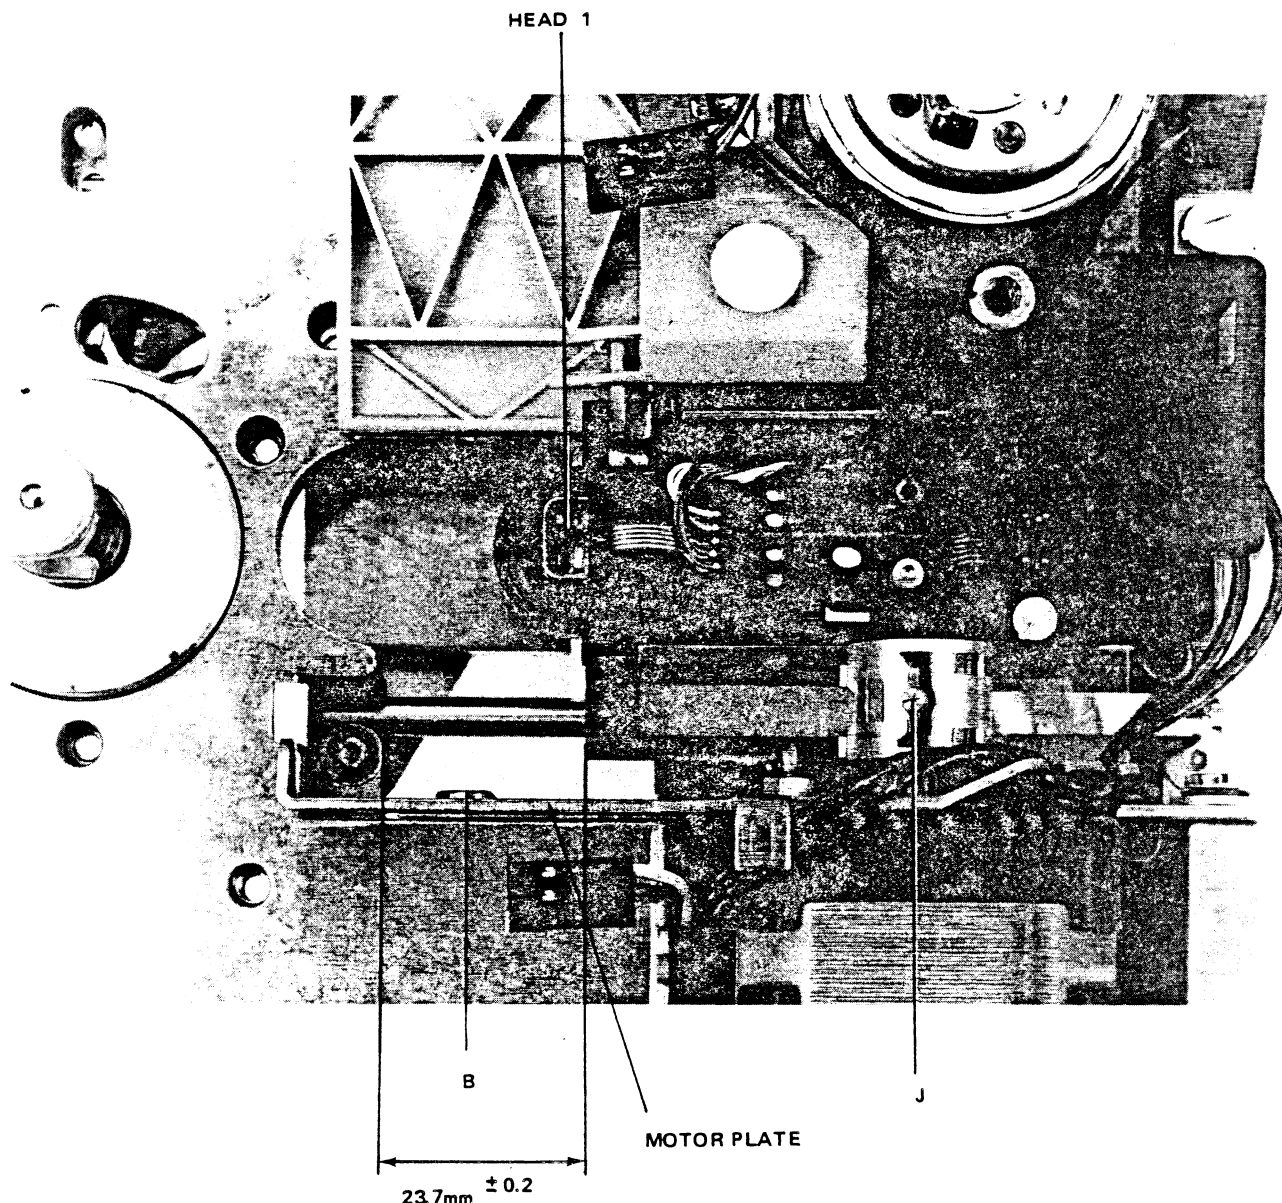

Figure 7.9 BAND POSITION
- f) Swing the motor up slightly to allow the band to be pulled carefully out of its slot (figure 7.9) with a pair of tweezers.
Note: If the band has been removed or even slackened, screw and clamp J (figure 7.9) should not fully tightened until this assembly procedure is complete. This is to allow the band to align with the carriage and the pulley.
- d) Locate the front of the band as per figure 7.9.